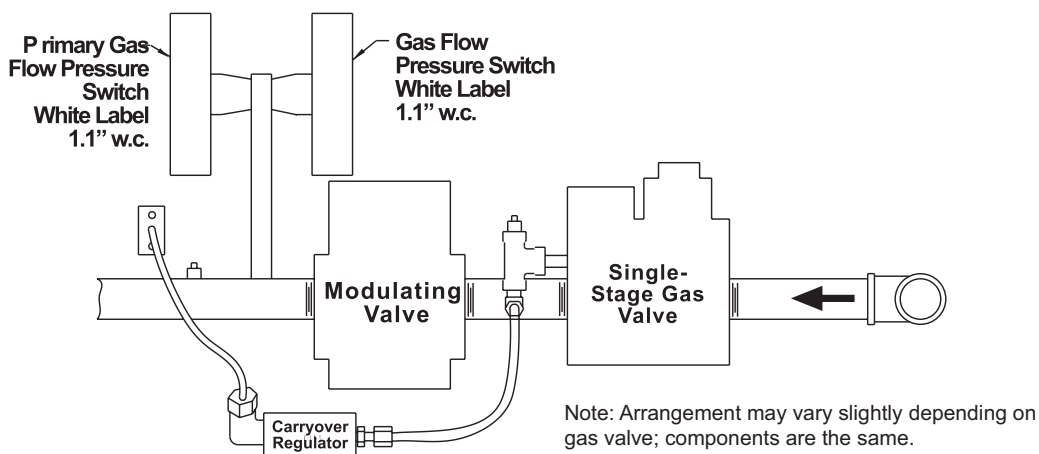

Figure 13. Option AG39 Manifold Arrangement
- The gas train (see Figure 13) includes a single-stage gas valve, a modulating valve, and two gas pressure switches. The burner rack is equipped with one flash carryover and a regulated gas lighter tube system. The carryover lighter tube receives its gas supply through the regulator simultaneously with the gas to the burner. Control of the system is through a Maxitrol amplifier (see Figure 12) with a corresponding remote temperature dial.